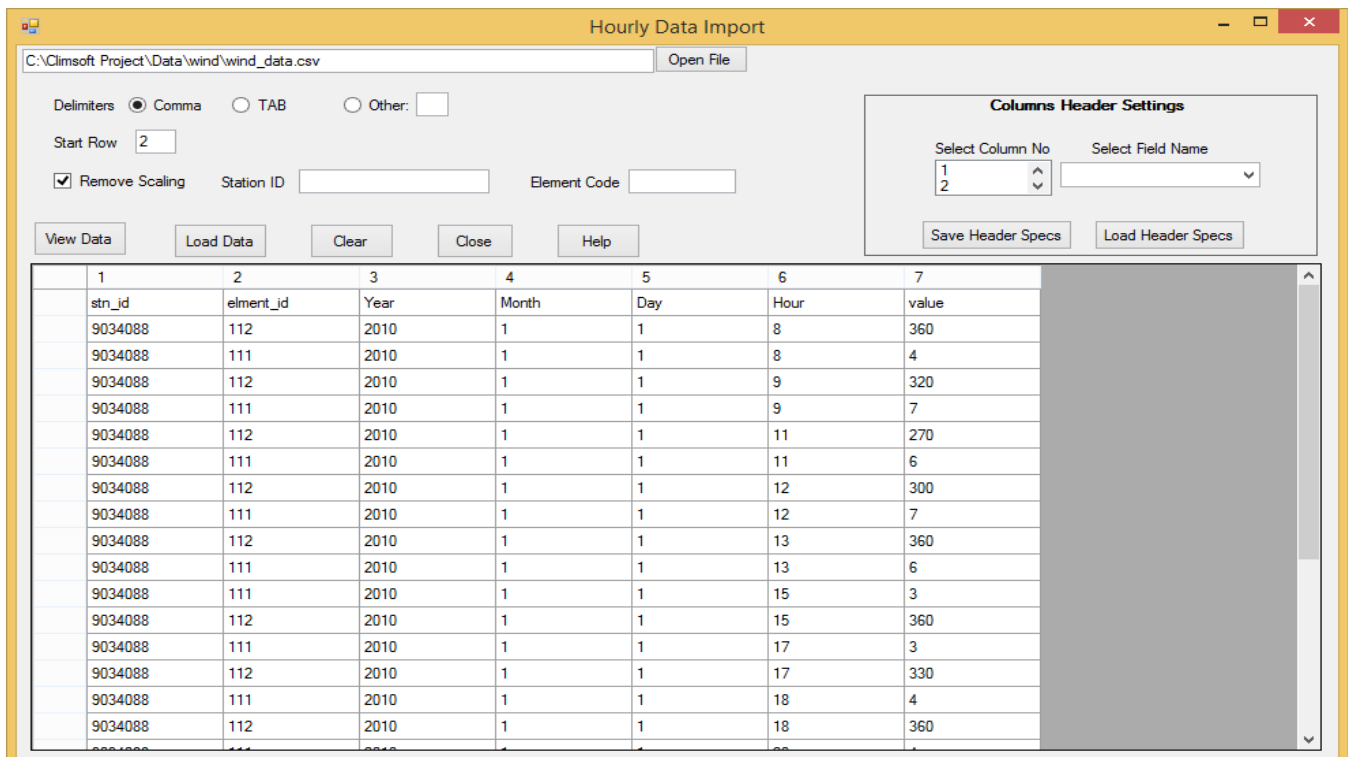

Figure 60: Importing External Data
- (iii) After selecting “**Hourly or Daily**”, the dialog in *Figure 60* opens up. Click on “**Open File**” to browse and select the file containing data to transfer, specify the “**delimiter**” of the file to import e.g. comma (default), TAB or Others (type in the delimiter character). Check/uncheck the “**remove scaling**” box appropriately to ensure data will be imported into “*observationinitial*” table without the decimal points. Click “**View Data**” button to view the data in a grid view (tabular form),